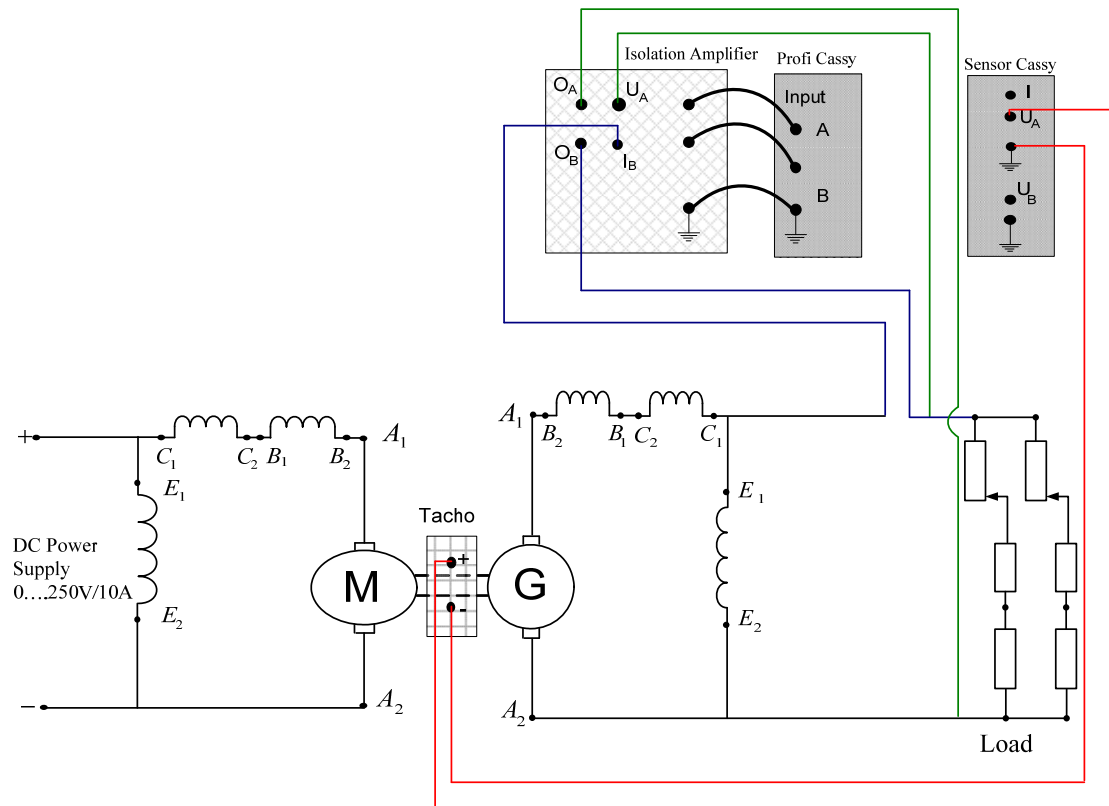

Figure 2: Load Characteristic Set Up for Shunt DC Generator
16. Connect the circuit as shown in Figure 2 using Cassy measurement Connection load voltage, for the load current, and for rotor speed. Note that at this stage the load resistance value has to be at 100%.